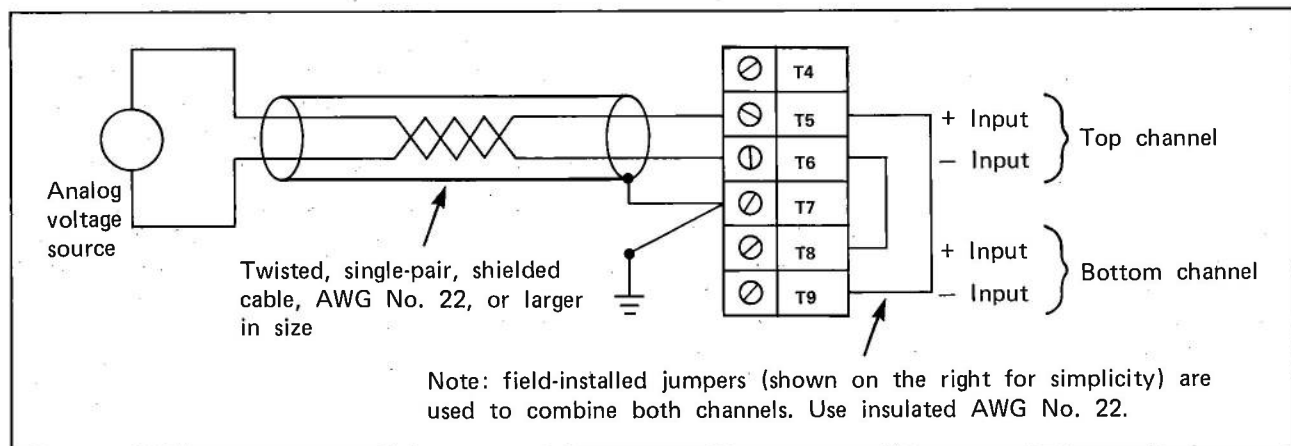

Figure 9 — Bi-polar Input Connections
5. It is possible to wire the top and bottom channels to form a single bi-polar analog input. To do so, connect both channels to the same analog voltage input source with their polarities reversed. In this way one channel handles the 0 to +10 VDC; the other handles the 0 to -10 VDC. (See Figure 9.)
It is also necessary to install jumpers on the I/O Arm terminal block between T5 and T9 and between T6 and T8. (See Figure 9.)